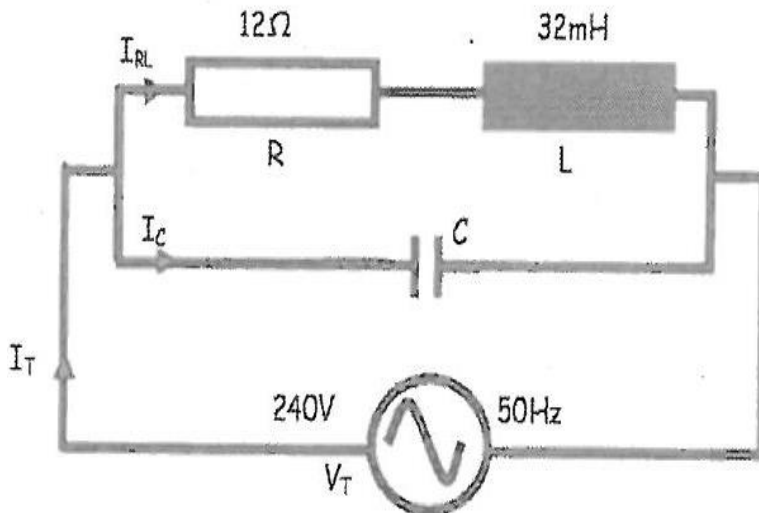

FIGURE 2
2.2 Study FIGURE 2 below and answer the question.
If the total current is at the minimum for the circuit in FIGURE 2, calculate the value of the capacitor.